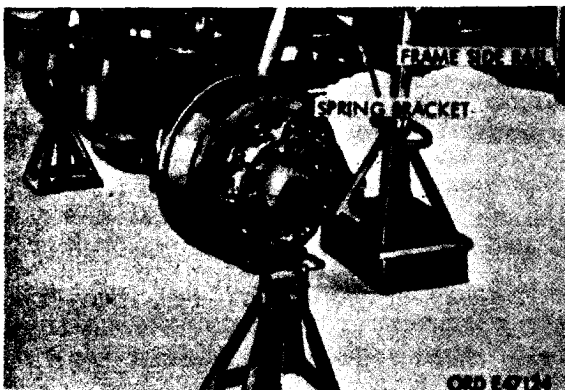

Figure 334. Truck support stand positioned for front axle removal
b. Remove Wheel and Tire Assemblies. Remove left and right front wheel and tire assemblies. Refer to TM 9-2320-211-20. Place a support stand under left and right front hubs (fig. 334) and remove floor jack from under differential housing.
g. Position Hydraulic Jack. Position hydraulic jack (fig. 337) with axle fixture under the front axle (fig. 334), raise jack sufficiently to release support stands under the wheel hubs, and remove the stands.
d. Install U-bolt Clamp Plates. Raise front axle sufficiently to permit placing support stands under front wheel hubs, and place stands in position (fig. 334).